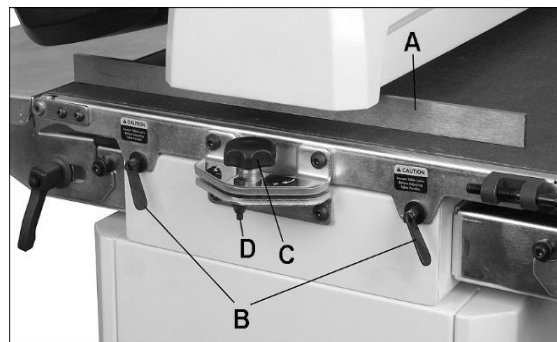

Figure 8-4: drum alignment
3. Insert gauge between drum and conveyor table at outboard side of drum (A, Figure 8-4).
3. If a ridge is visible where the drum overlaps, loosen both table locks (B, Figure 8-4) and lower table at outboard end slightly by turning knob (C).